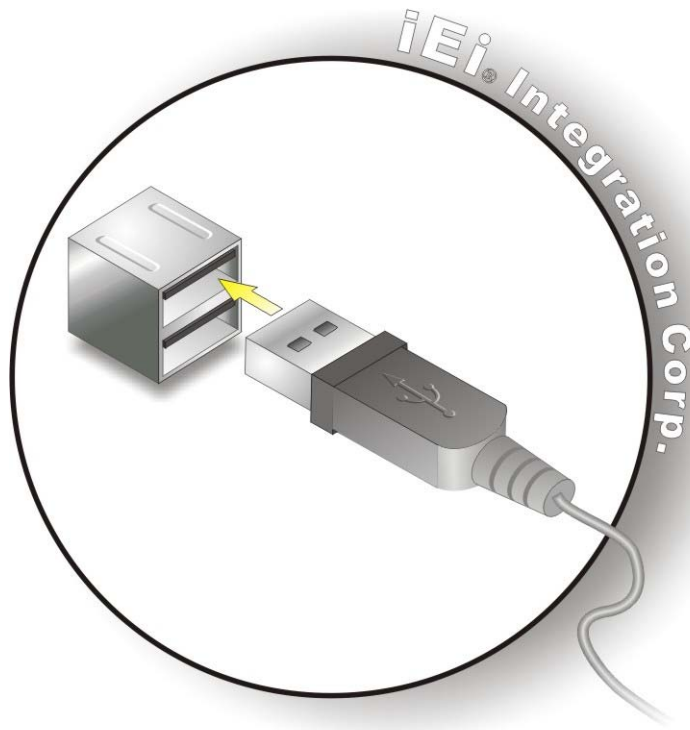

Figure 4-21: USB Connection
Step 2: Insert a USB Series "A" plug. Insert the USB Series "A" plug of a device into the USB Series "A" receptacle on the external peripheral interface. See **Figure 4-21**.